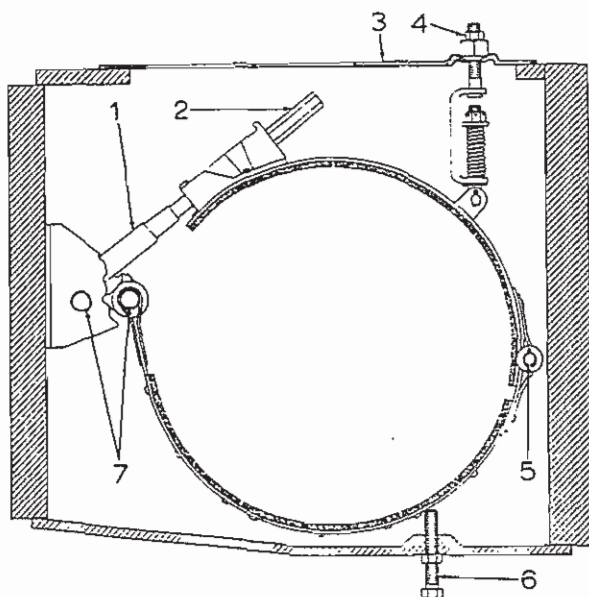
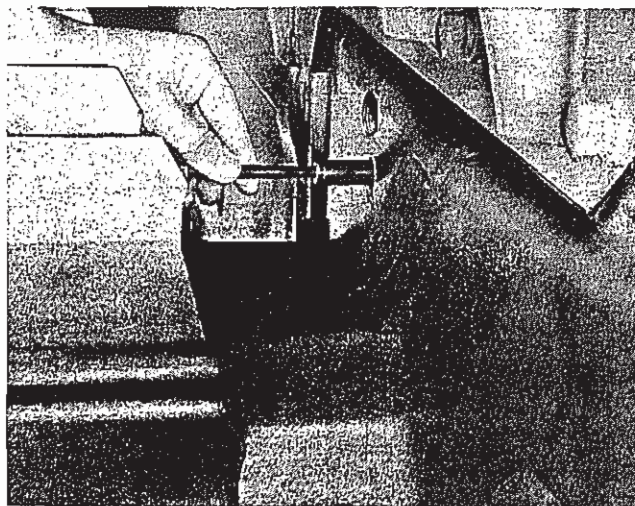
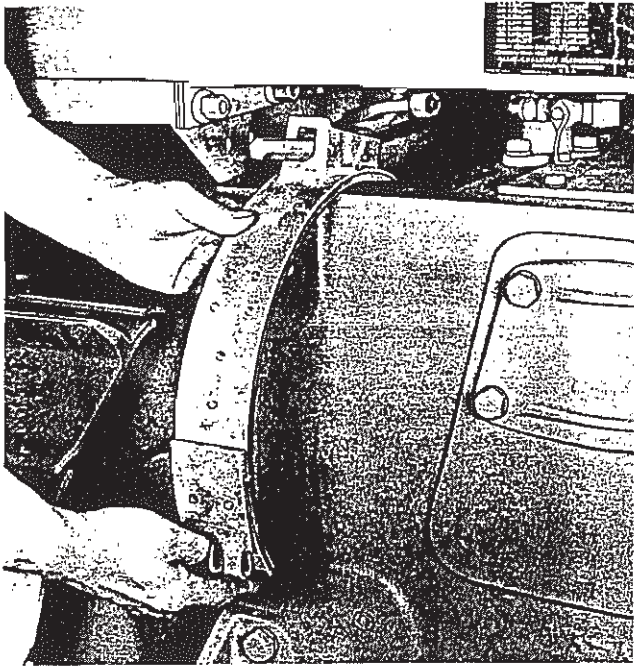

Fig. 5 -- Typical Steering Brake
Fig. 6 -- HD6 End Pin Removal
Fig. 8 -- Removing Top Band Section
2. Remove band support, Fig. 5, and compartment cover.
4. Remove pipe plugs from side of final drive housing, Fig. 6 or 7; insert long capscrew through hole and into tapped end pin; pull pin and remove adjusting yoke (remove both end pins, Fig. 5 (7) same way).
5. Turn top band section forward on drum and remove hinge pin, Fig. 5 (5); remove top band section, Fig. 8, and then bottom band section.
3. Remove band support screw (HD6), or jam nut and band support nut (HD11); refer to Fig. 5.
5. Remove pipe plugs located on side of final drive housing, Fig. 6 or 7, and insert long capscrew through proper hole; turn capscrew into yoke end pin and remove pin; remove adjusting yoke, Fig. 5. Remove end pin securing bottom band section by same method. Do not remove brake bands.